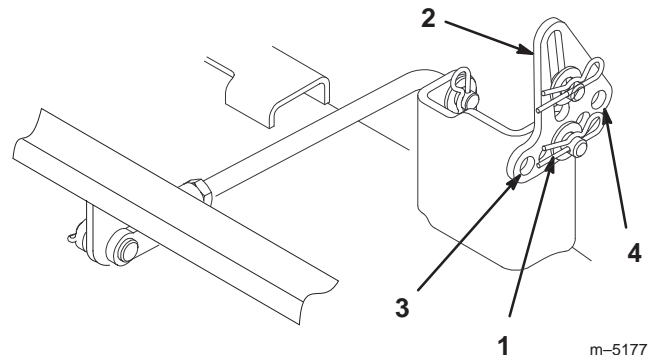

Figure 39
5. Remove the hairpin cotter and washer from the leveling bracket (Fig. 39). To level the blade(s), reposition the leveling bracket(s) in a different hole and install the washer and hairpin cotter. (Fig. 39). A front hole lowers the blade height and a rear hole raises its height. Adjust both sides as required.